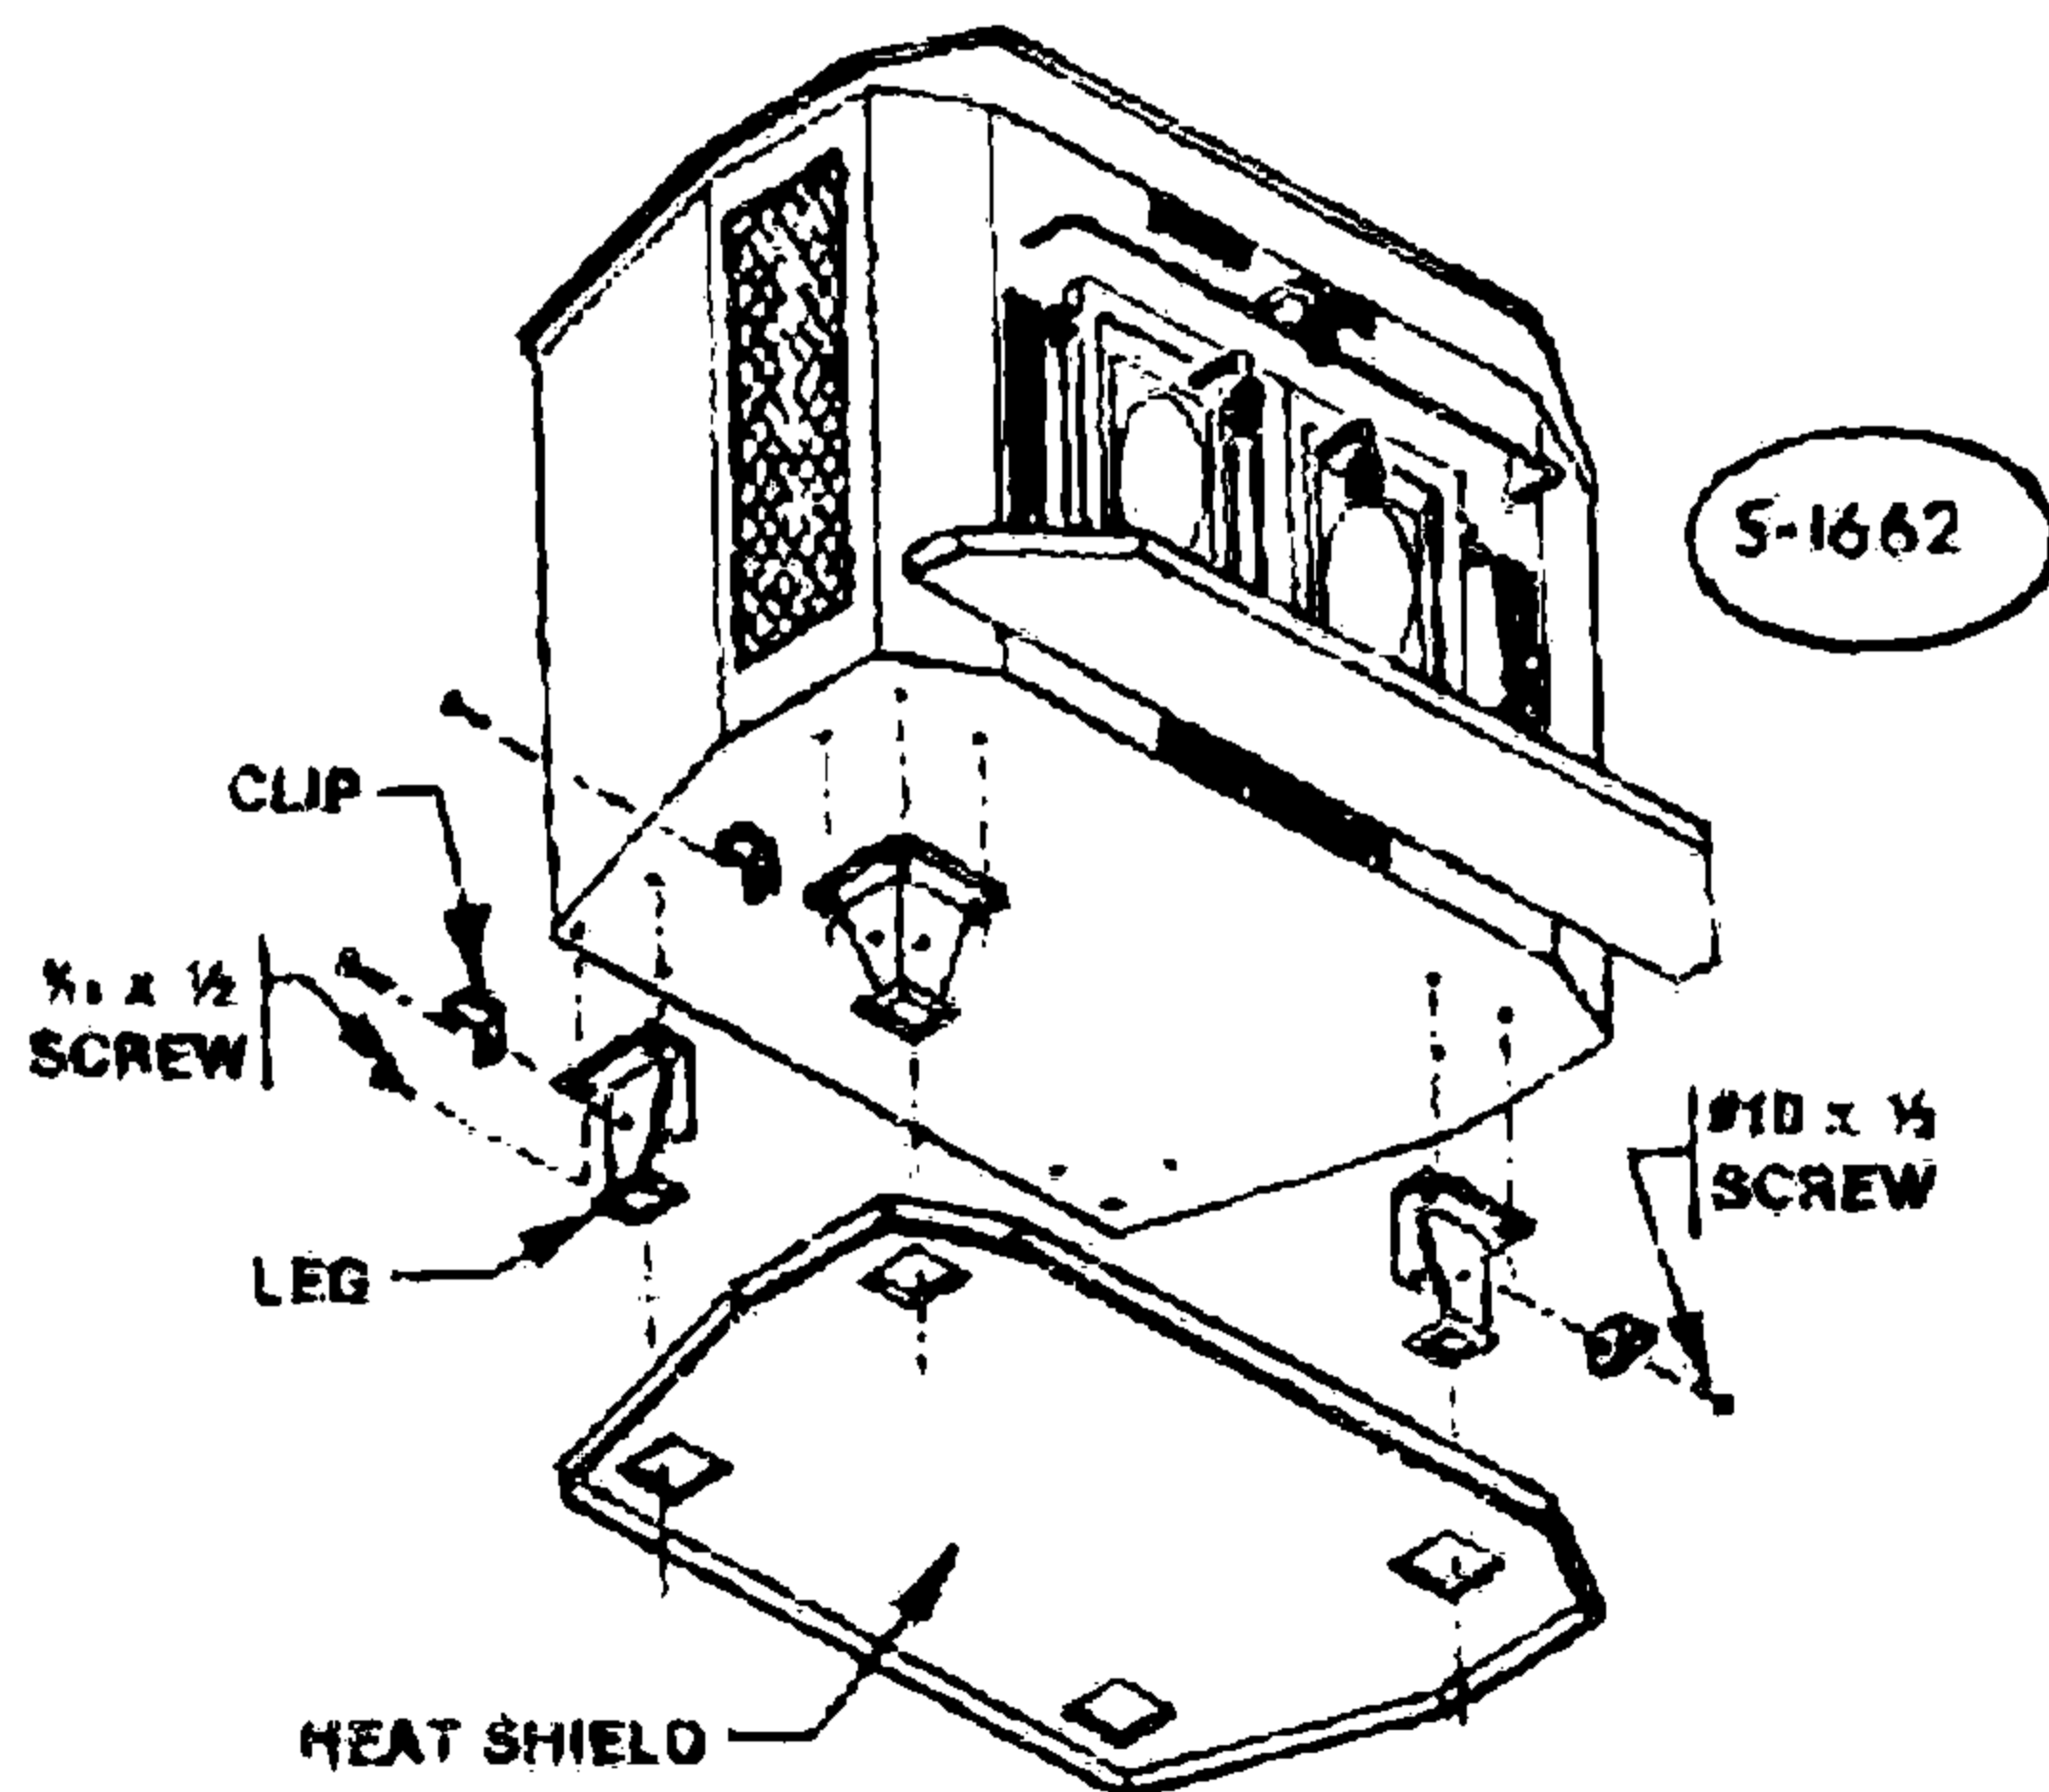

FIG. 9 — HEAT SHIELD and STOVE LEG INSTALLATION
1. Stove Legs and the Heat Shield are mounted on the bottom of the stove (See Figure 9). To mount, place blocks on floor to support back of stove. Roll stove over backward onto blocks. Using the $\frac{1}{8} \times \frac{1}{2}$ self-tapping screws (3), attach one leg. Place the leg through the hole in the heat shield. The flange on the heat shield should be pointed opposite of the bottom of the stove. Place the opposite leg through the hole in the heat shield and then attach the leg to the stove. Repeat this operation for the remaining two legs.